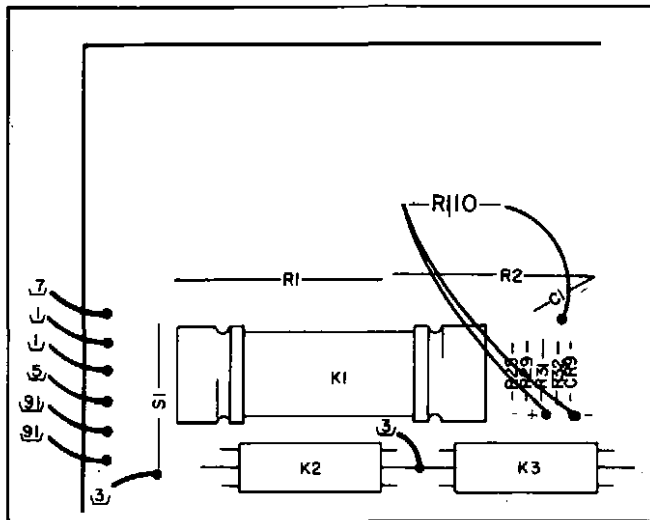

Figure 5-2. 1 Volt Zero Adjustment.
k. Remove the top covers and note the value of A10R106 – if there is an R110 installed (see Figure 5-2). Refer to Table 5-1 and record the Offset Voltage that corresponds to the current value of A10R110: \_\_\_\_\_. (If there is no A10R110, record 0.000000 V.) If R110 is connected to the terminal marked “+”, the polarity of the Offset Voltage is *negative*; if R110 is connected to the terminal marked “-”, the polarity of the offset is *positive*.
n. Remove the original A10R110 (Figure 5-2). If the total offset (Step l) is positive, connect the new R110 between the unmarked terminal and the terminal marked “-”; if the total offset is negative, connect it between the unmarked terminal and the terminal marked “+”.